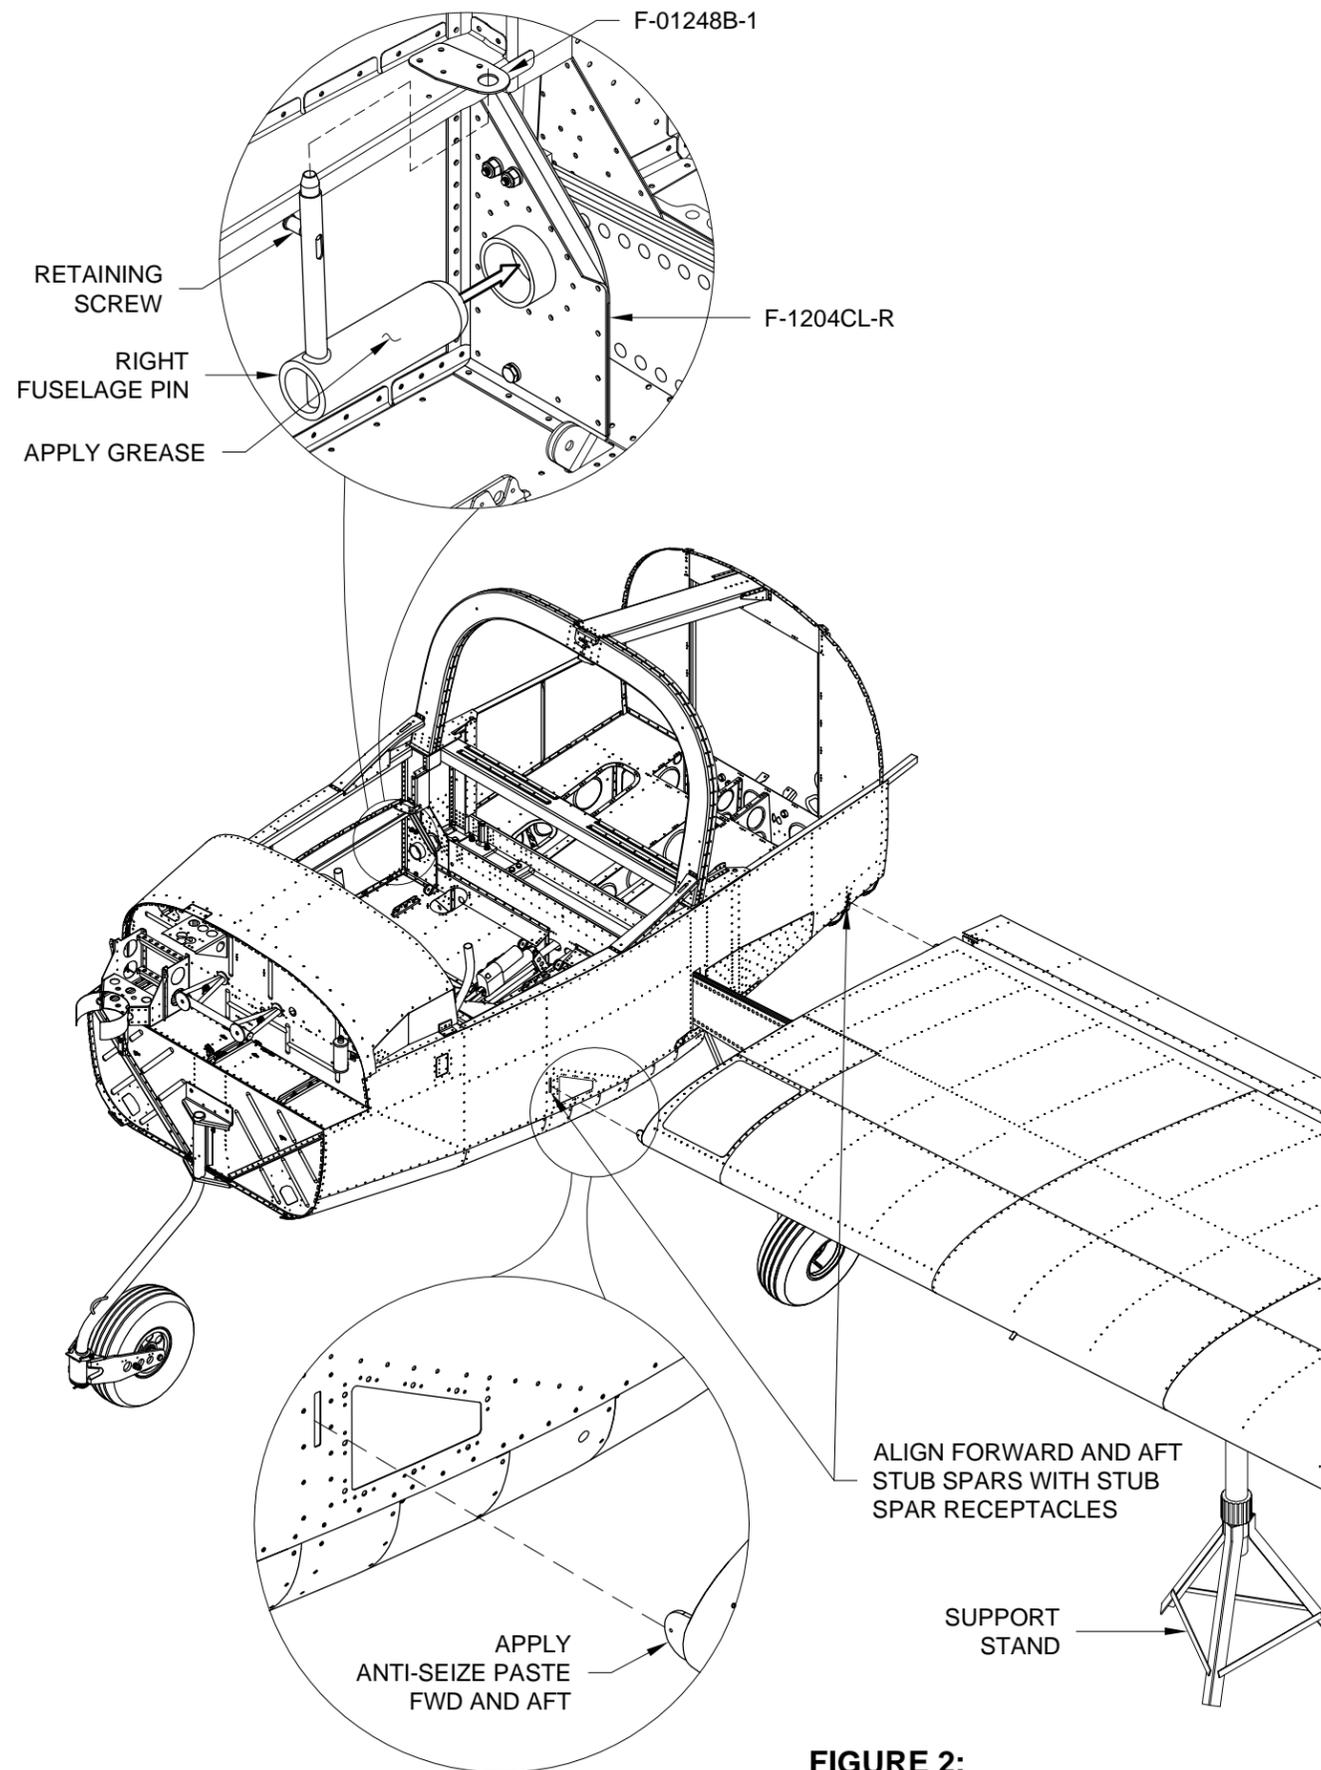

FIGURE 2: WING INSTALLATION
Step 4: Place a padded stand (preferably adjustable) under the left wing as shown in Figure 2. Take care that the stand is aligned with a wing rib (not between ribs) to avoid denting the wing skins. The stand may alternately be positioned under the optional eye bolt tie-down ring (eye bolts are not included in the kit, but are available from our accessories catalog and other sources).
Step 5: With one person on each end of the right wing, slide the right wing spar over the F-1204M Roller and under the F-1204R Retainer Block on the opposite side; see Figure 1. Slide the fuselage pins through the bushings in both wing spars and latch them to the F-01248B-1. Be sure the fuselage pins are on the correct side with the retaining screws positioned outboard as shown in the top detail view of Figure 2; this will prevent them from being depressed accidentally.
Step 1: Lubricate both A-1211s and the A-1207-L & -R with general purpose wheel bearing grease; see Figure 2.